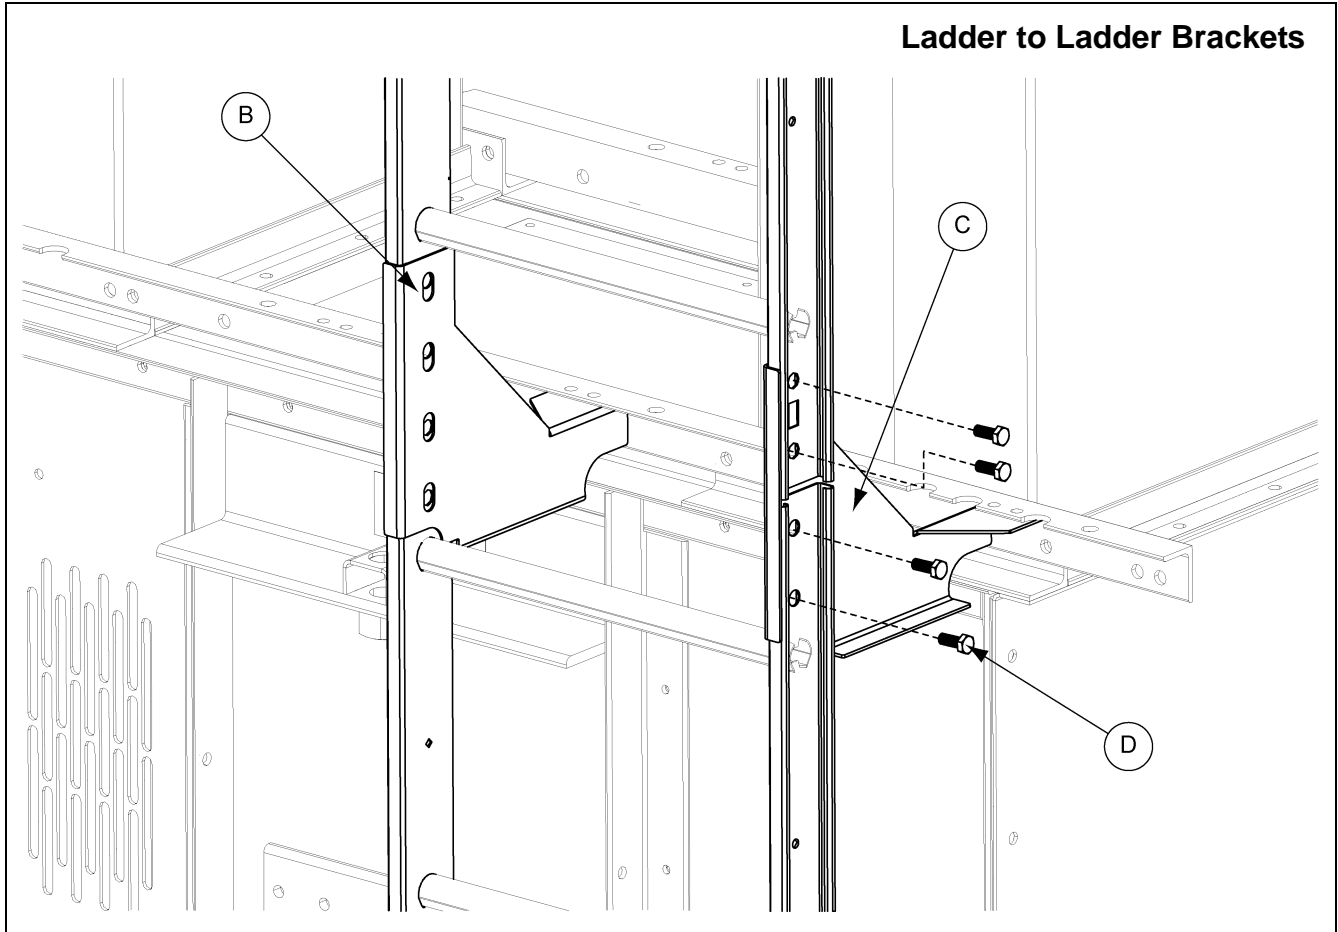

Figure 6F
2. Attach trimmed ladder section to the left and right ladder brackets using 1/2" x 1" hex bolts (S-7935) (D) through the bottom most set of holes.
3. Attach the next ladder section to the ladder brackets using 1/2" x 1" hex bolts (S-7935) (D) through the top set of holes. (See Figure 6F.)